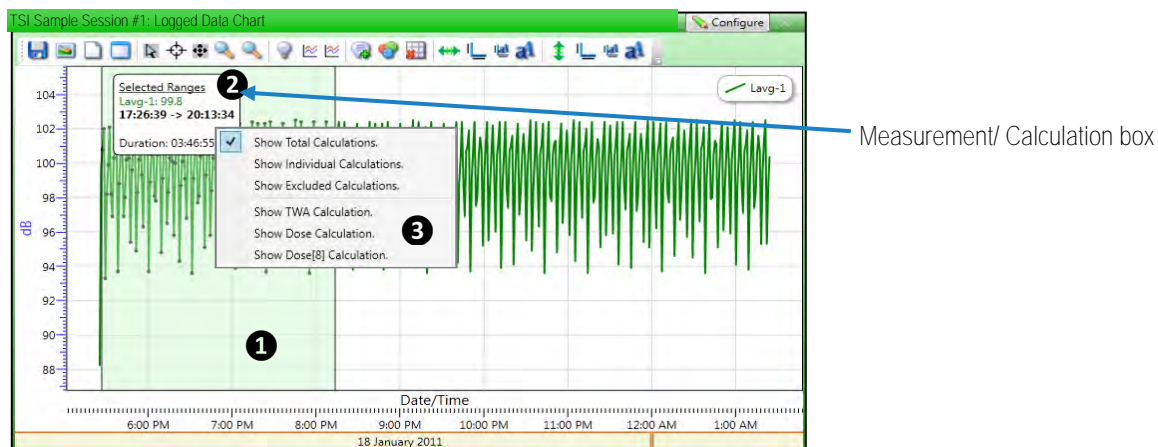

Figure 1-72: NoisePro dosimeter logged data chart and calculations
- Shading will appear over the selected data range (see **1**, Figure 1-72).
- A calculation box will appear (see **2**, Figure 1-72) above the chart showing the calculations.
- To change which options and additional calculations are displayed in the calculation box, right-click on the box and a context menu will appear (see **3**, Figure 1-72). Select your desired options: Show Total Calculations (a combined calculation of all selected ranges), Show Individual Calculations (an individual calculation for each selected range), and/or Show Excluded Calculations (a combined calculation of all non-selected ranges). Select your desired additional calculations: Show TWA Calculation, and/or Show Dose Calculation Show Dose[8] Calculation.